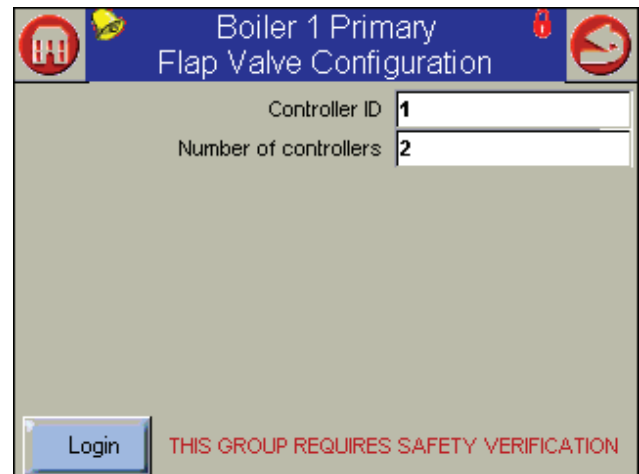

Fig. 42 - Verification Needed
2. If you make a change in any group that could affect the safe operation of the unit, the control system will ask you to “verify” the change before it is accepted. As an example, let’s say that we wanted to change the configuration for one of the flap valves. See Fig. 42. A line printed in red at the bottom of the screen indicates that the system wants to do a safety verification. (All of the parameters in this group have safety-related functions. If you change any of them, you will have to do the verification for the whole group.)